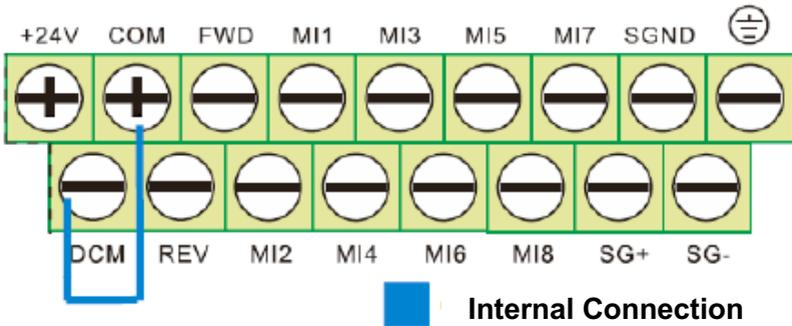

FIGURE 4: manual drive - PNP connection (default).
In order to make the manual drive, it is necessary to make the connections as shown in FIGURE 4, **after removing the electric tension.**
**As default, the inverter are supplied with connections corresponding to PNP manual drive (FIGURE 4).**